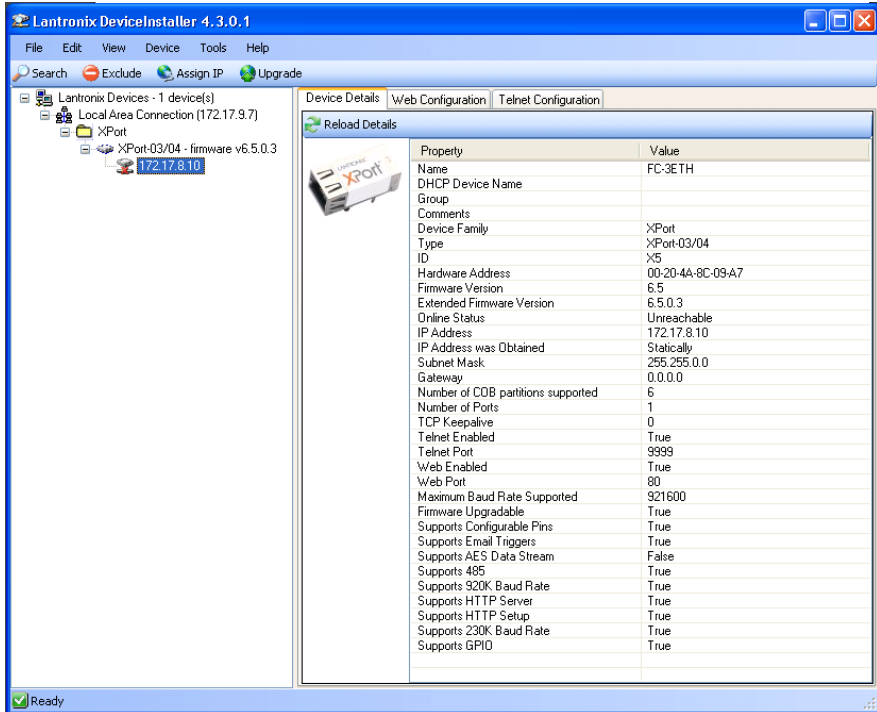

Figure 4: Device Details
Figure 4 shows a device found on the network, with the IP addresses assigned at the factory. The Hardware Address is an individual permanent address assigned to a particular device on the network. The Hardware Address can be found on the product label inside the unit.
Note: Click on a device to view its attributes (see Figure 4)
1. Select the device from the list (see Figure 4), then click the **Assign IP** button or select **Assign IP Address** from the Device menu.